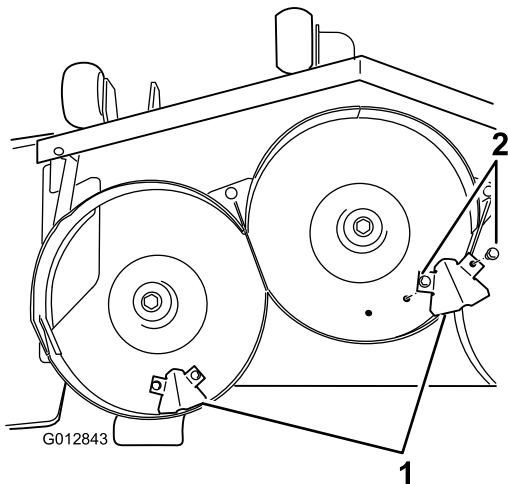

Figure 5
15. Locate the kicker baffles and four flange screws (5/16 x 3/4 inch) from loose parts. Install the baffles to the underside of the deck at the locations shown in Figure 5. Secure the baffles to the deck using four flange screws (5/16 x 3/4 inch).